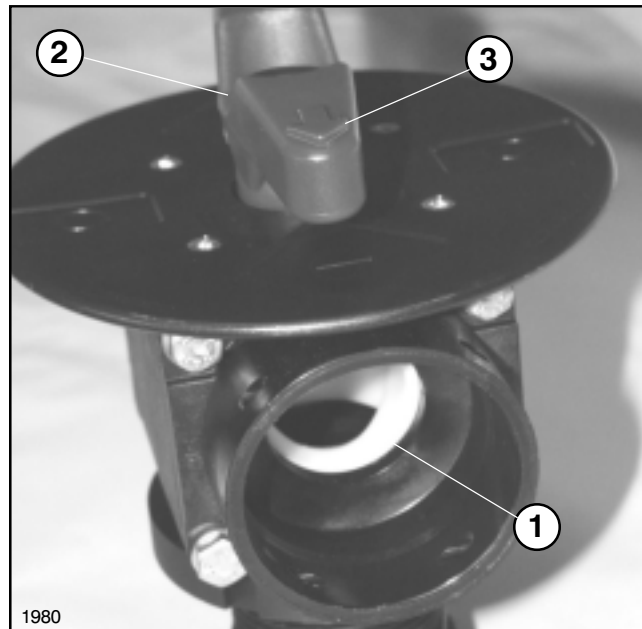

FIG. 4
5. Verify that the arrow on the three-way valve handle is in line with the large hole in the Ball inside the Valve. If not, remove the screw from the center of the Handle and reorientate the Handle. Replace Screw. See FIG. 4, page 4.
8. Attach valve assembly to the Valve Bracket using the two (2) existing #10-16 x 5/8 Lg. screws in the face of Valve.
9. Attach Support Bracket to Valve Bracket using two (2) 1/4-20 x 3/4 cap screws and two (2) flange nuts.
10. Attach Valve Bracket and Support Bracket to the tank valve Tee Bracket Assembly, using two (2) existing 1/4-20 x 3/4 cap screws and two (2) 1/4-20 x 3/4 cap screws and two (2) flange nuts from Parts Bag.